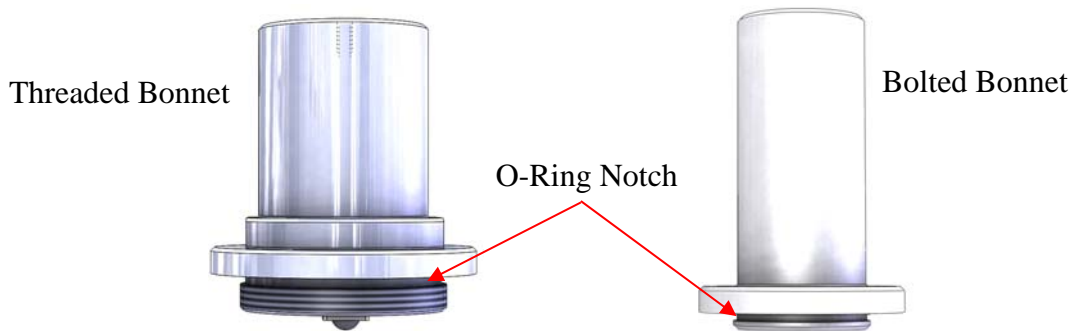

Figure 56: Top Entry Bonnet O-Ring Notch
10. Place the bonnet o-ring over the bonnet. Be careful to not cut the o-ring. The o-ring should reside in a notch towards the bottom of the bonnet. See Figure 56.